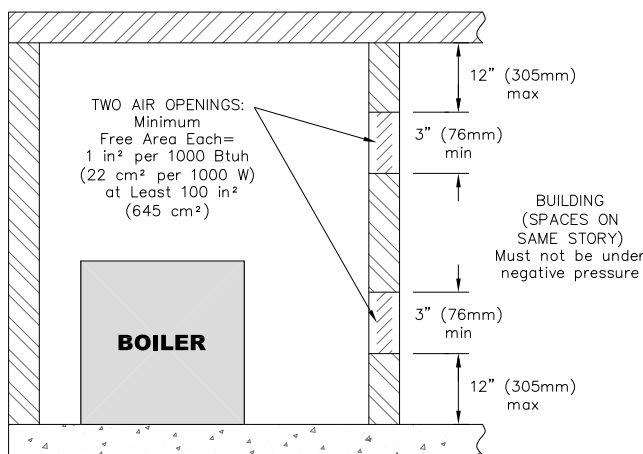

Figure 1.3: Air Openings – All Air from Indoors on the Same Floor
- a. *Combining Spaces on the Same Floor:* Provide two permanent openings communicating with additional spaces that have a minimum free area of 1 in² per 1000 Btu/hr (22 cm² per 1000 W) of the total input rating of all gas fired equipment but not less than 100 in² (645 cm²). One opening is to begin within 12 inches (305 mm) from the top of the space and the other is to begin within 12 inches (305 mm) from the floor. The minimum dimension of either of these openings shall be 3 inches (76 mm). See Figure 1.3 for an illustration of this arrangement.